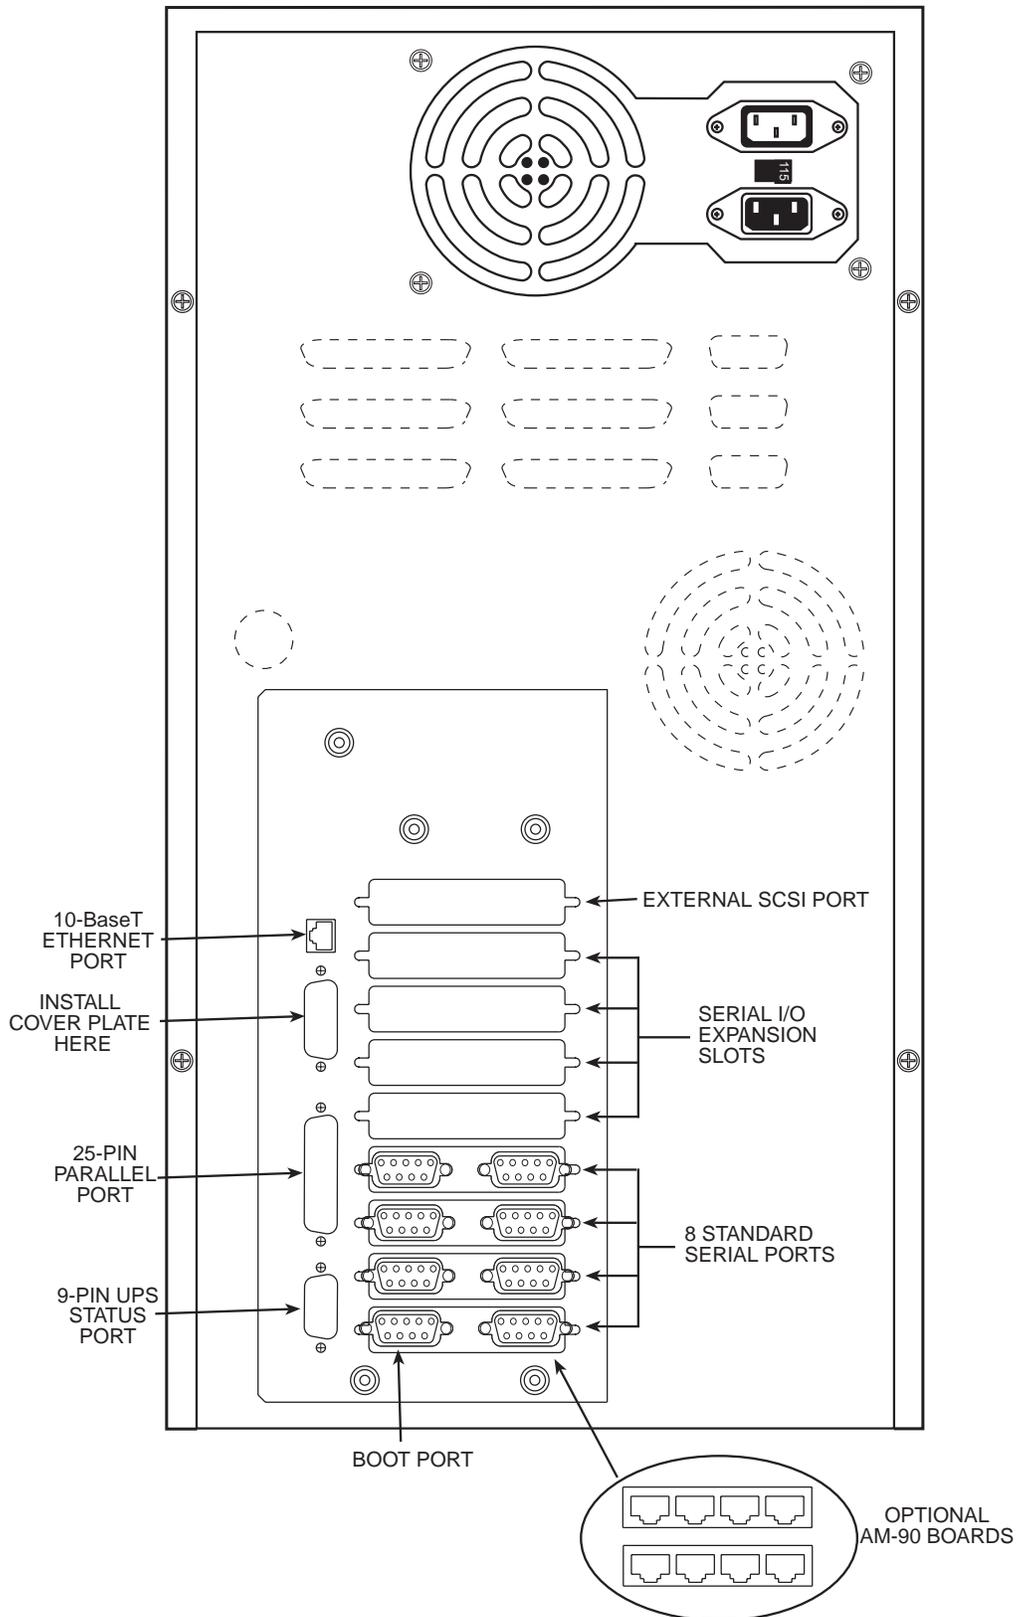

Figure 6-4: Eagle 250 Rear Panel (Old Style Chassis)
5. If you purchased the optional AM-90 Lightning boards for the eight on-board serial I/O ports, install them into each of the two bottom rear panel I/O slots (see Figure 6-4). Attach the cable from the board for ports 0-3 at P1 on the AM-138-10; attach the cable from ports 4-7 at P2.